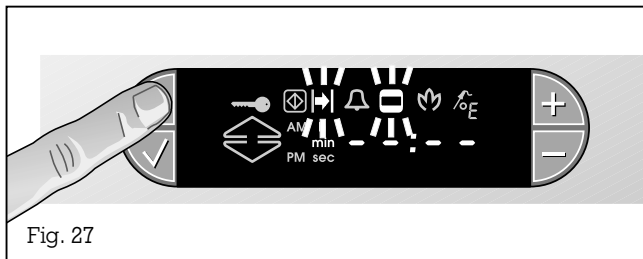

Fig. 27
- Press the ☹️ (Timer) key twice. The ⏻ (End) and 🍲 (Cooking time) symbols flash (Fig. 27).